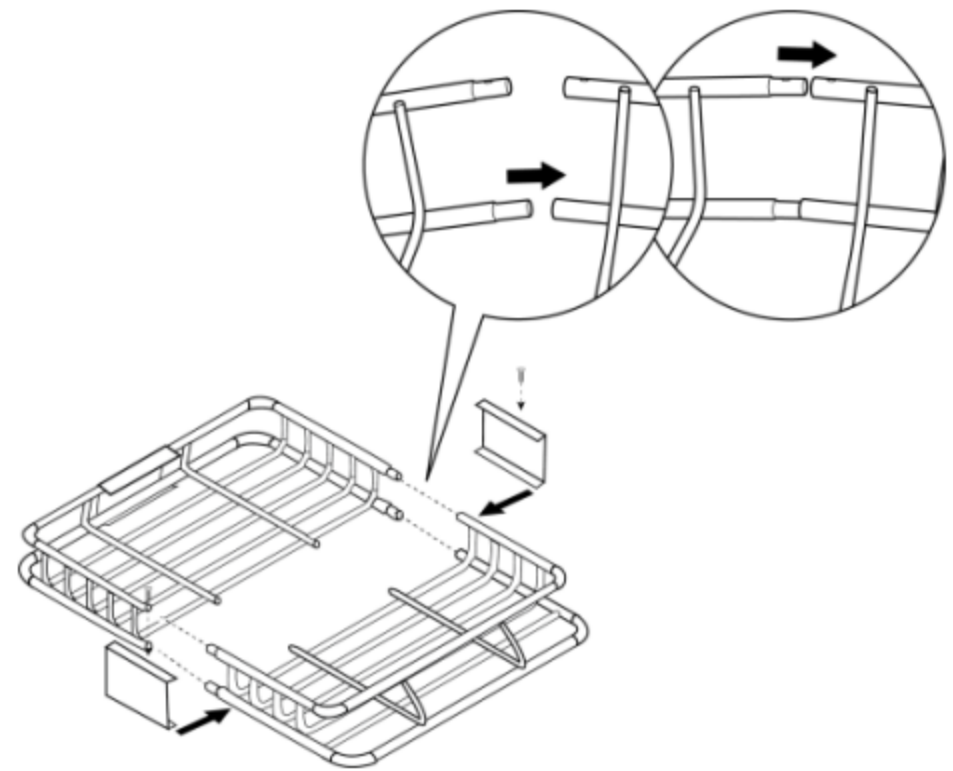

Figure 1
- 1) Slide the front and rear baskets together, as shown in **Figure 1**.